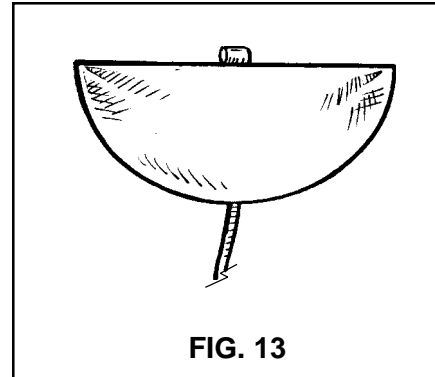

FIG. 13
16. Lay the pilot chute out flat with the mesh side up. Fold the excess bridle on top of the laid out parachute and fold the pilot chute in half over the bridle (FIG. 13).
Pass the pull-up cord through the closing loop, then thread it through the grommet in the free-bag. Lay the bag in the container with the line-stow pouch on the under side. Close each side flap in turn, securing the flaps with the temporary pin. Push the tuck flaps under the ears of the bag. "S" fold the bridle evenly up and down both sides of the temporary pin and pull-up cord (FIG. 13).